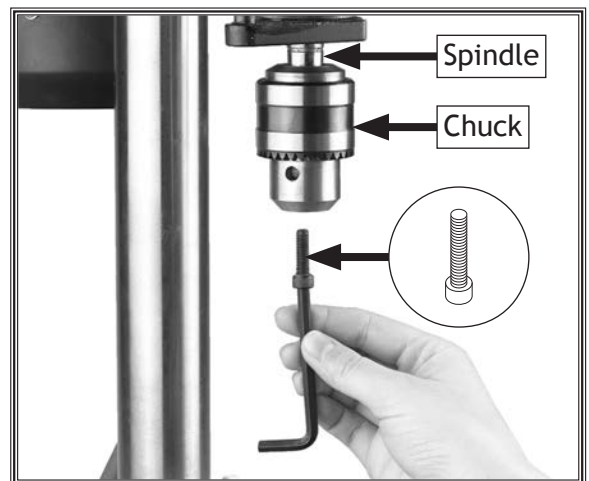

Figure 15. Installing chuck on spindle (chuck guard seat removed for clarity).
- Place drill chuck on spindle, then secure with M5-.8 x 20 cap screw (see Figure 15).